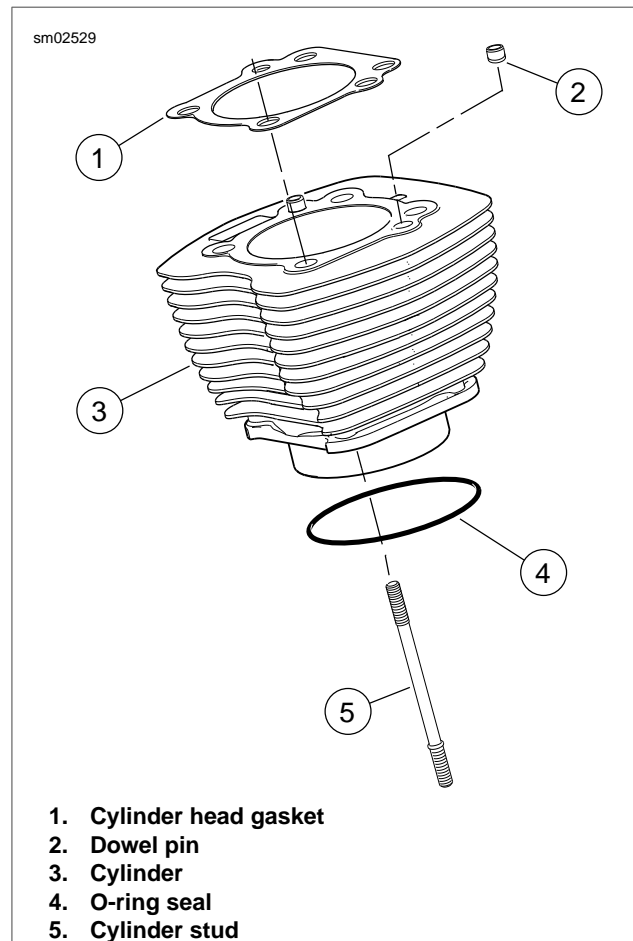

Figure 3-100. Cylinder Assembly
1. See Figure 3-100. Scrape old gasket material from the machined surface at the top of the cylinder (3). Old gasket (1) material left on the mating surface will cause leaks.